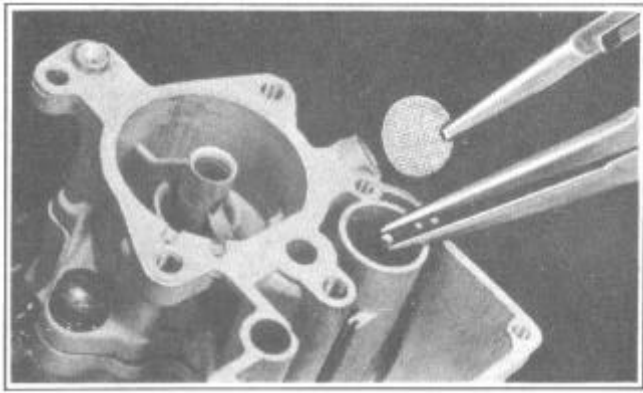

FIGURE 24
10. Remove pump strainer, and pump intake check ball, Figure 24.